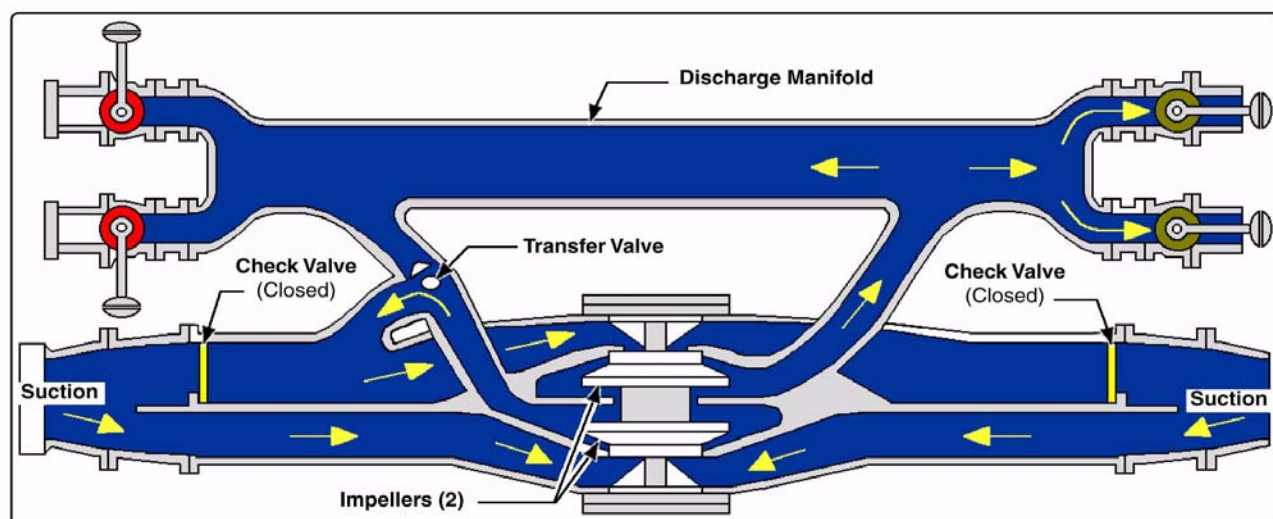

Figure 2-6: Two-Stage Pump PRESSURE Operation
For Pressure operation the impellers are connected in series. The output of the impeller supplied from the pump intake is added to the input of the next impeller. (See Figure 2-6: “Two-Stage Pump PRESSURE Operation.”).
- Set to PRESSURE (series) operation when higher water pressures are required. (See Figure 2-6: “Two-Stage Pump PRESSURE Operation” on page 24.)